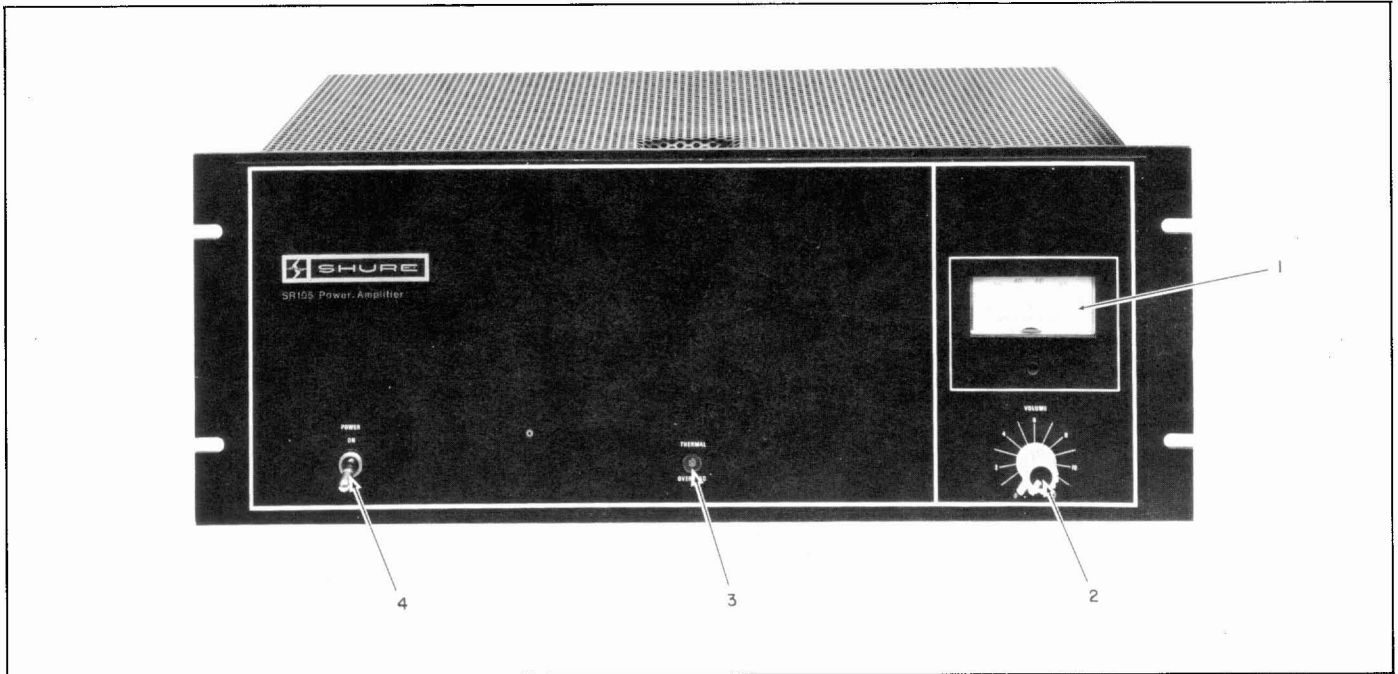

FIGURE 1. SR105 POWER AMPLIFIER FRONT PANEL
**FUNCTIONAL IDENTIFICATION** (Refer to Figures 1 and 2, Page 2).